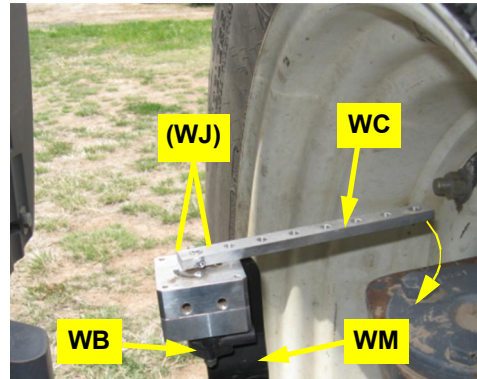

Figure 2b: Installed WAS assembly
- b. Using hardware **WJ** (not visible) install the WAS assembly on its mount **WM** (Figure 2b). Mount the assembly: